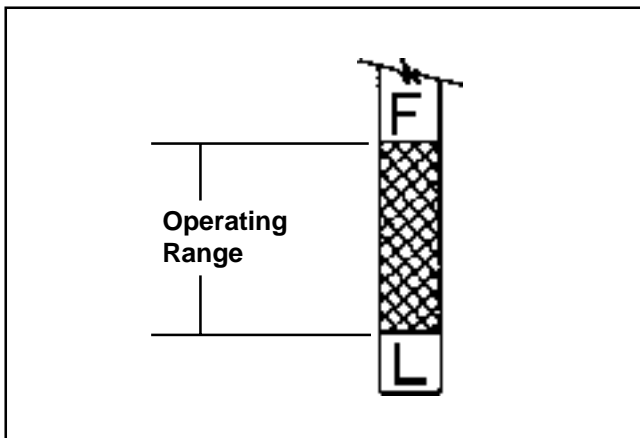

Figure 6-4. Oil Level Dipstick.
4. Remove the dipstick and check the oil level. The oil level should be up to, but not over the "F" mark on the dipstick. See Figure 6-4.